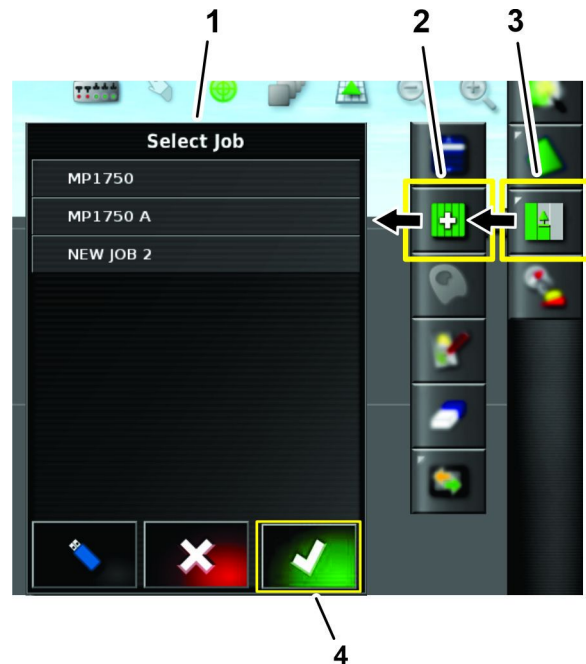

Figure 161
7. Press the JOB MENU icon (Figure 161).
8. Press a SELECT JOB icon, in the select job list press a job icon, and press the confirm icon (Figure 161).